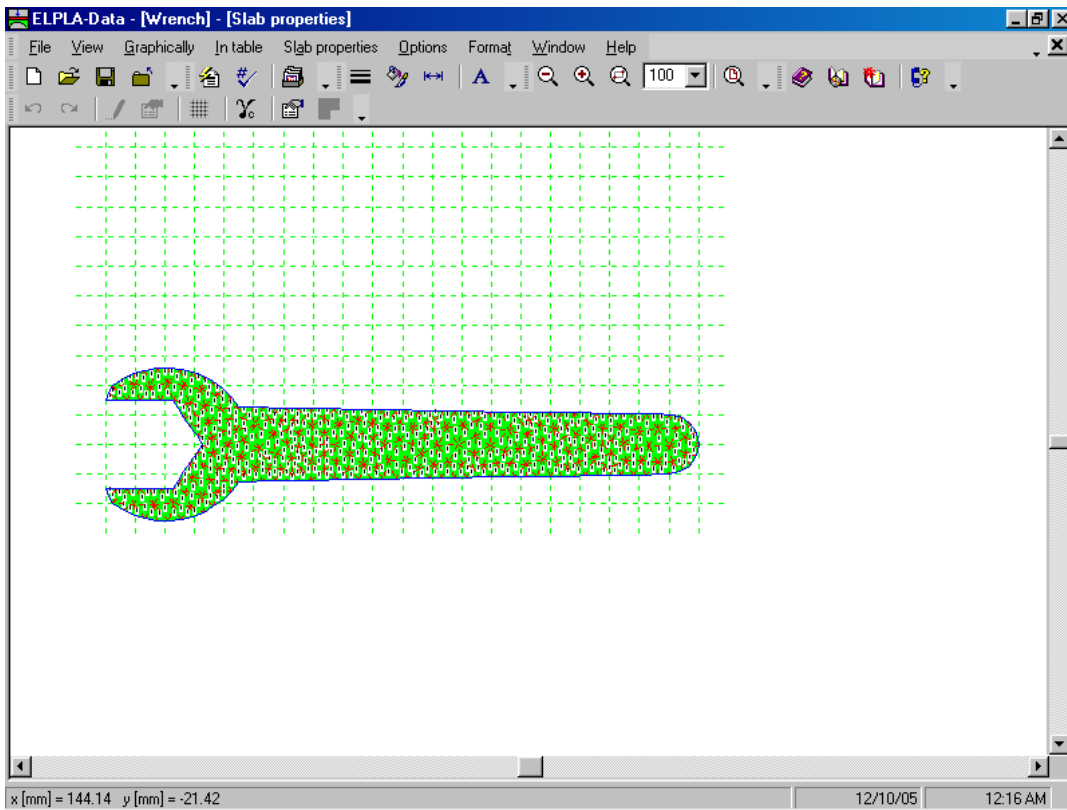
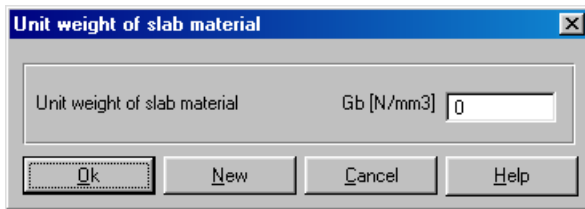

Figure 5-23 "Slab properties" embedded program
Figure 5-25 "Unit weight of slab material" dialog box
To define the material properties, choose "Slab properties" command from "Data" menu. The following embedded program in Figure 5-23 appears with default slab properties. The data of material properties for the current example, which are required to be defined, are wrench material and wrench thickness.
To enter the unit weight of the wrench material, choose "Unit weight of slab material" command from "Slab properties" menu in the window of Figure 5-23. The following dialog box in Figure 5-25 with a default unit weight of 25 [kN/m³] appears. To neglect the self-weight of the wrench in the analysis, type 0 in the "Unit weight of slab material" edit box then click "OK" button.
- Choose "Save Slab properties" command from "File" menu in Figure 5-23 to save the foundation properties
- Choose "Close Slab properties" command from "File" menu in Figure 5-23 to close the "Slab properties" embedded program and return to the main window of *ELPLA-Data*